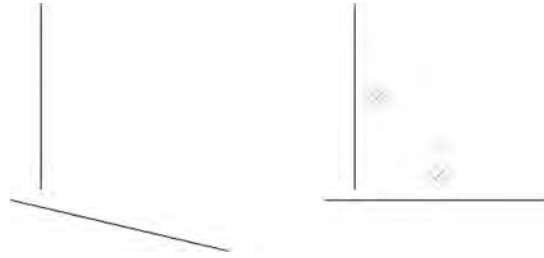

FIGURE 13.12
- Step 1.** Draw two lines that are roughly perpendicular, as seen in Figure 13.12 (left).
Immediately after the selection of the second line, you see it snap to perpendicular and two sets of geometrical constraints are added next to each line, as seen in Figure 13.12 (right). Note that, if you were to select the bottom line first, then the vertical one would snap to it, not the other way around. Selection order matters.